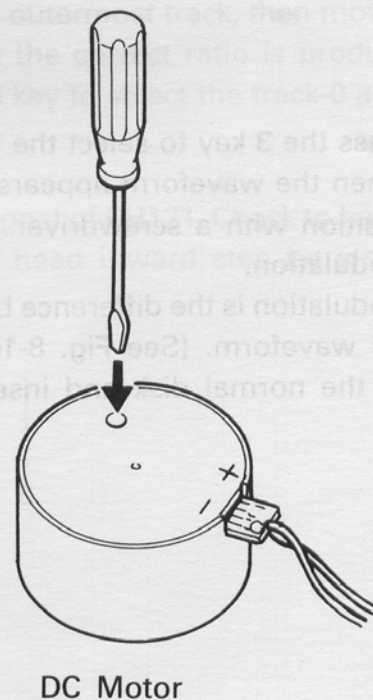

Fig. 8-3
- Insert a screwdriver into the part of the DC motor indicated by the arrow in Fig. 8-3. Turn the screwdriver so that the value of the counter is within the range from 4.975Hz to 5Hz. Attach the cover after making the adjustment. Press $\langle \text{ESC} \rangle$ to exit to the menu.